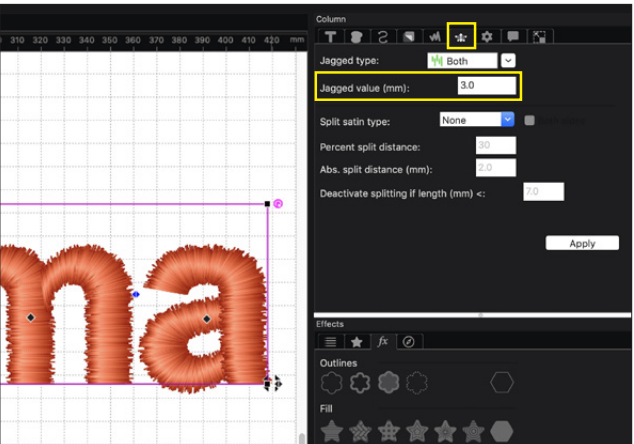

Figure 57
3. Next, click on the Column tab in the Object Properties Pane and select the Jagged Type drop down. **See Figure 57.**